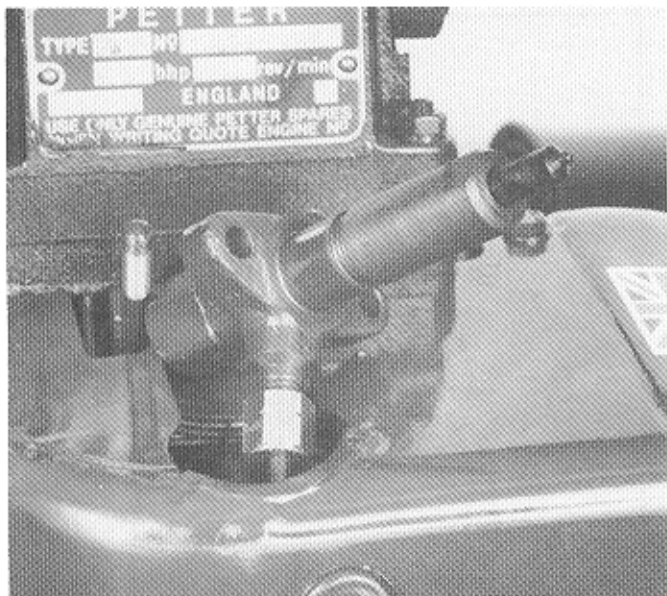

Figure 3.8
- (1) Connect the injector to the pump-to-injector fuel pipe in such a manner that the injector nozzle points away from the engine. (Figure 3.8).